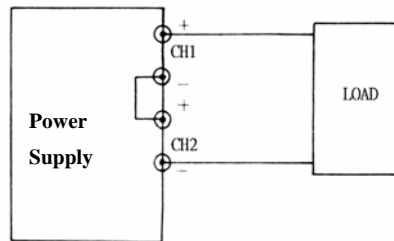

Fig. 5-3 Single Supply
- E. If “single supply” operation is desired, this allows the power supply to be used as twice the voltage and rating current simply by using the negative (black) terminal of the CH2 supply and the positive (red) terminal of the CH1 supply, the configuration as shown in Fig. 5-3.